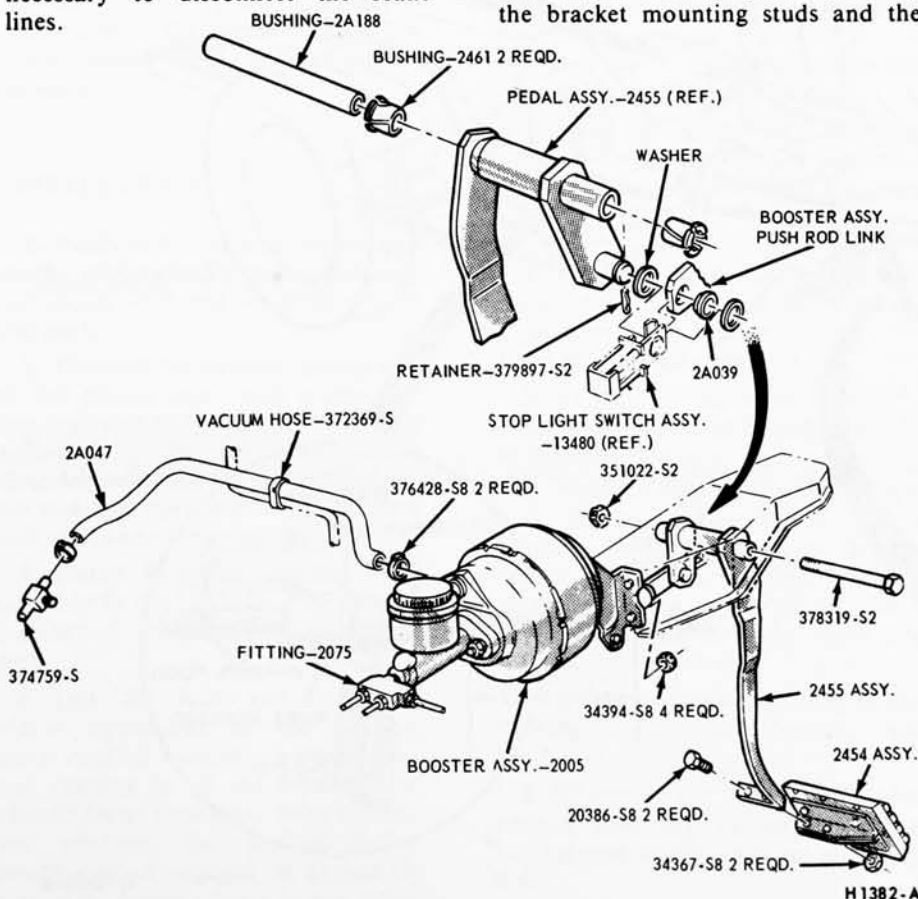

FIG. 17—Brake Booster and Pedal Installation
Disconnect the stop light switch wires at the connector. Remove the hairpin retainer. Slide the stop light switch off from the brake pedal just far enough for the switch outer hole to clear the pin, and then lift switch straight upward from the pin. Slide the master cylinder push rod and the nylon washer and bushing off from the brake pedal pin (Fig. 17).
6. Remove the booster and bracket assembly from the dash panel, sliding the push rod link out from the engine side of the dash panel (Fig. 17).
push rod link in through the holes in the dash panel (Fig. 17).
Install the inner nylon washer, the master cylinder push rod, and the bushing on the brake pedal pin. Position the switch so that it straddles the push rod with the switch slot on the pedal pin and the switch outer hole just clearing the pin. Slide the switch completely onto the pin. Install the outer nylon washer as shown in Fig. 17. Secure these parts to the pin with the hairpin retainer. Connect the stop light switch wires to the connector, and install the wires in the retaining clip.
3. Remove the hairpin retainer. Slide the stop light switch off from the brake pedal pin just far enough for the switch outer hole to clear the pin, and then lift the switch straight upward from the pin. Slide the master cylinder push rod and the nylon washers and bushing off from the brake pedal pin (Fig. 17).
1. Apply a coating of SAE 10 engine oil to the bushings and locate all the bushings in their proper places on the pedal assembly (Fig. 17).
3. Install the inner nylon washer, the master cylinder push rod, and the bushing on the brake pedal pin. Position the switch so that it straddles the push rod with the switch slot on the pedal pin and the switch outer hole just clearing the pin. Slide the switch completely onto the pin, install the outer nylon washer as shown in Fig. 17. Secure these parts to the pin with the hairpin retainer.